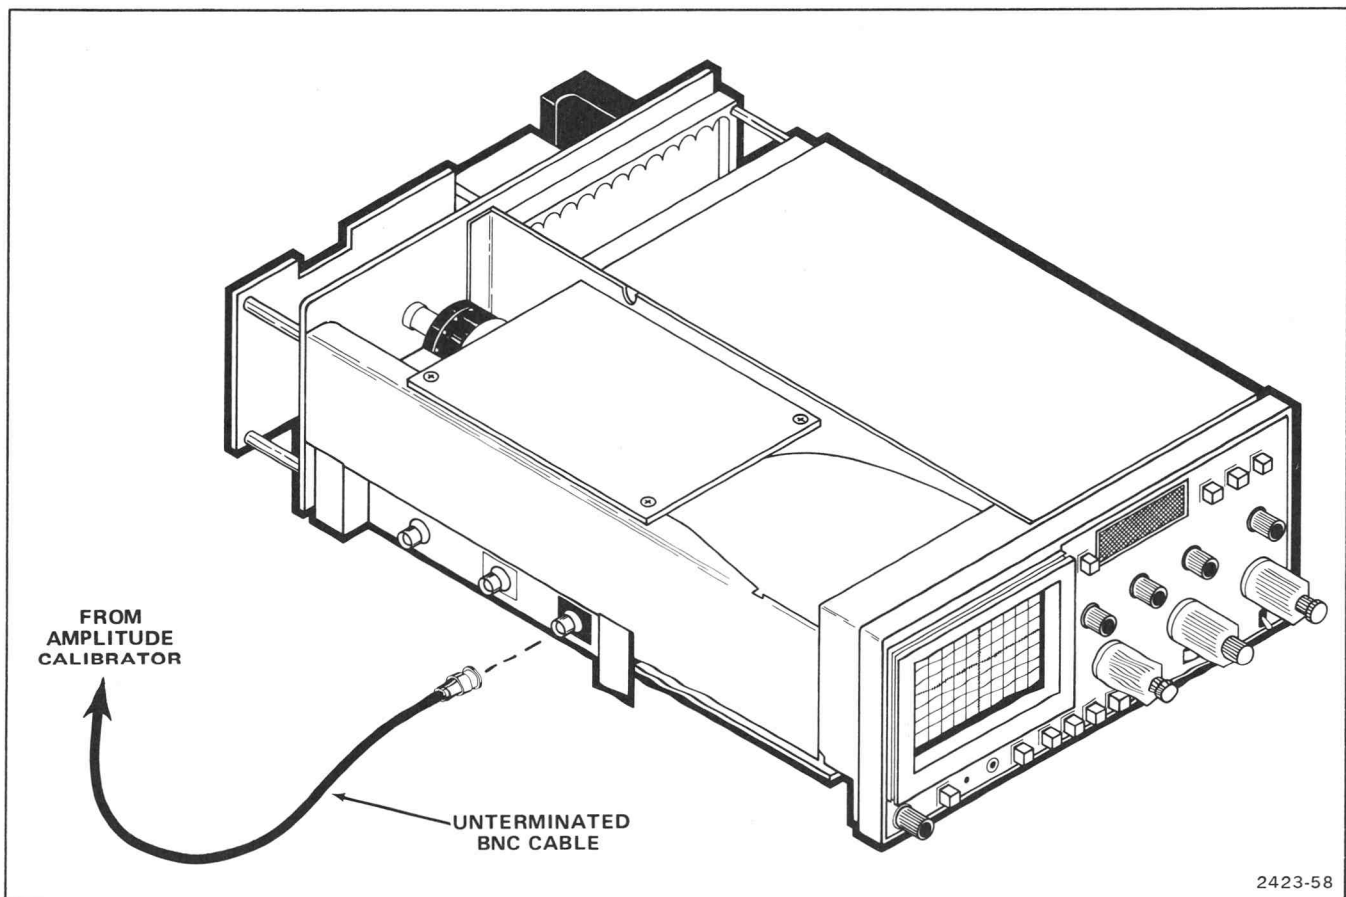

Fig. 4-8. Equipment setup for external horizontal sensitivity.
- a. Connect equipment to CH 1 input as shown in Fig. 4-8.